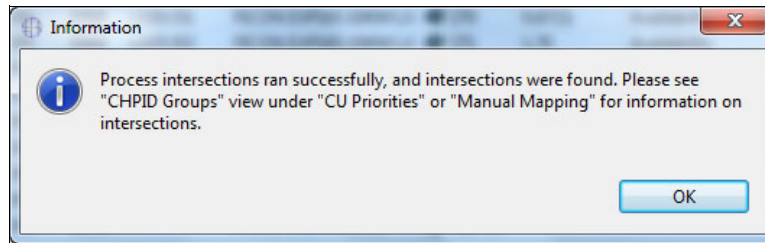

Figure 7-44 CMT - Process Intersections run successfully message
7. Click **OK** (Figure 7-44).